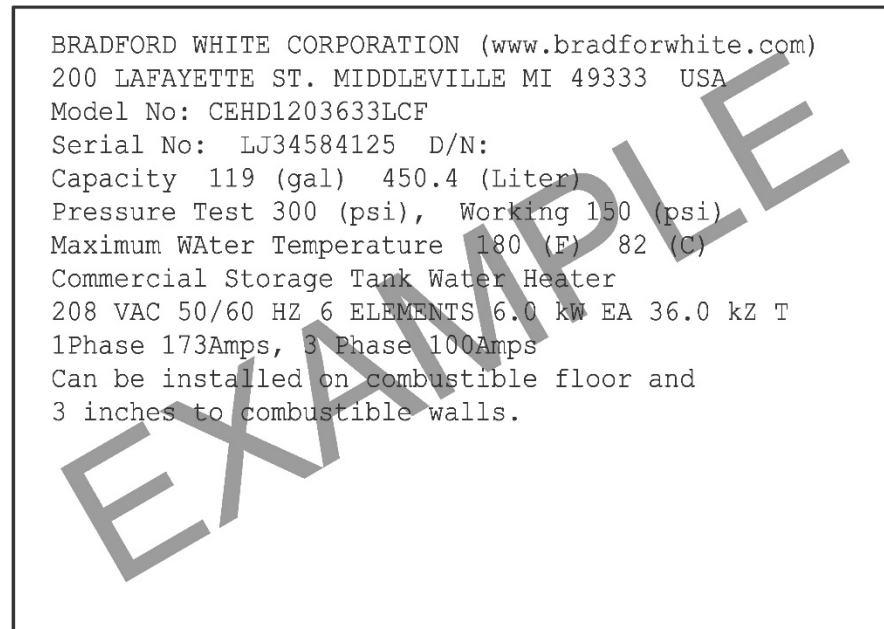

Figure 13. Typical Commercial Electric Rating Plate
1. Refer to Figure 13, which displays a typical commercial electric rating plate that must be altered. This rating plate is placed on every commercial electric water heater produced by Bradford White Corporation. Locate this rating plate on the water heater you have just converted. If the kW rating or the voltage rating of the water heater was modified, the rating plate must be modified because the conversion altered the electrical characteristics of the water heater.